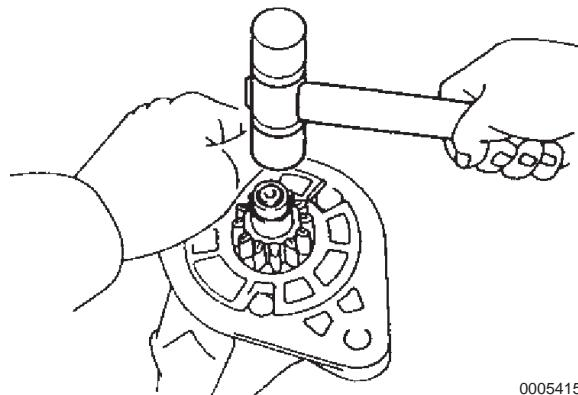

Figure 10-27
7. Tap in the clutch shaft with a plastic hammer and install the stop collar onto the snap ring (**Figure 10-27**).